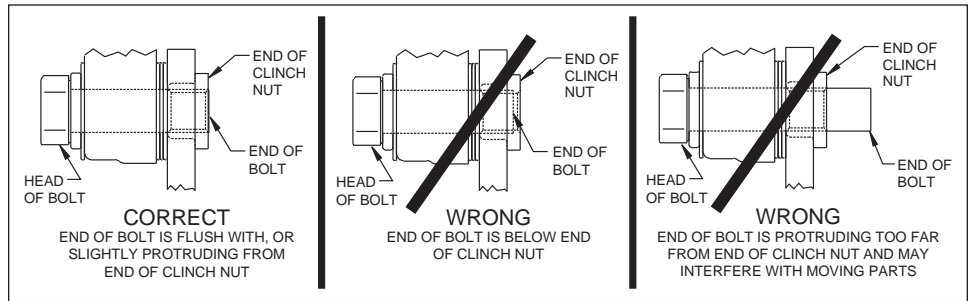

Figure 4. Clinch Nut Engagement Diagram
Assembly Instructions (numbers in parenthesis refer to the parts list, and Figure 1 on the preceding pages): **CAUTION:** All mounting bolts must fully engage clinch nuts. Be sure to check that all bolts are either flush or protruding through flanged side of clinch nut after shimming, Figure 4.
•**NOTE:** Please reference the caution statement at the beginning of the assembly instructions. Mount the caliper (4) onto the caliper mounting bracket (1) using bolts (6) and washers (5), as shown in Figure 1. Initially place three .035" thick shims (7) on each bolt between the caliper and the bracket, Photo 7. Temporarily tighten the mounting bolts and view the rotor (3) through the top opening of the caliper. The rotor should be centered in the caliper, Photo 8. If not, adjust by adding or subtracting shims between the bracket and the caliper. Always use the same amount of shims on each of the two mounting bolts. **NOTE:** The end of each bolt must be flush with or slightly protruding from the head of the clinch nut, as shown in Figure 4. If necessary place spare shims between washer (5) and caliper mounting ear to achieve the proper clinch nut engagement. Once the caliper alignment and clinch nut engagement are correct, remove the bolts one at a time, apply red *Loctite*® 271 to bolt threads, and torque to 40 ft-lb.
•Install the disc brake pads (8) into the caliper, with the friction material facing the rotor (3), and secure in place using cotter pin (9), Photo 9.
•Before final installation of the wheel, install three lug nuts, remove the rubber grommet in the bracket kit assembly (1) and adjust the parking brake shoes outward (using a drum shoe adjustment tool available at your local auto parts store) while spinning the rotor/hat (3) until a slight drag is felt against the hat/drum. Replace the rubber grommet when finished.
•Install adapter fitting (10) into caliper and attach brake line to fitting. **NOTE:** It may be necessary to re-route the OEM line to reach caliper.
•**NOTE:** OEM rubber brake hoses generally cannot be adapted to Wilwood calipers. The caliper inlet fitting is a 1/8-27 NPT. The preferred method is to use steel adapter fittings, supplied with kit (10) at the caliper, and enough steel braided line to allow for full suspension travel and turning radius, lock to lock. **Carefully route hoses to prevent contact with moving suspension, brake or wheel components.** **NOTE:** Wilwood hose kits are designed for use in many different vehicle applications and it is the installer's responsibility to properly route and ensure adequate clearance and retention for brake hose components. Wilwood offers universal brake flex line hose kits, order P/N 220-7056 for the 14 inch length, P/N 220-7699 for the 16 inch length, or P/N 220-8307 for the 18 inch length. Hose kits include hoses, fitting, etc., all in one package for this application.